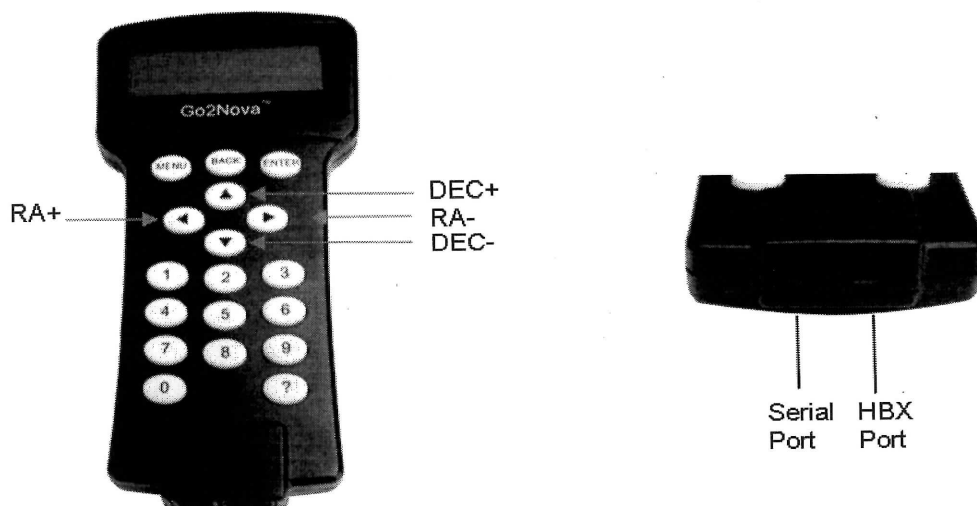

Figure 3. Go2Nova[®] 8408 hand controller
The Go2Nova[®] 8408 hand controller (HC) shown in Figure 3 is the standard controllers that used for a CEM25 mount. It has a 4 line, 21 character large LCD screen, function keys, direction keys and number keys on the front; a and a HBX port (6-pin) and a serial port (4-pin) at the bottom.